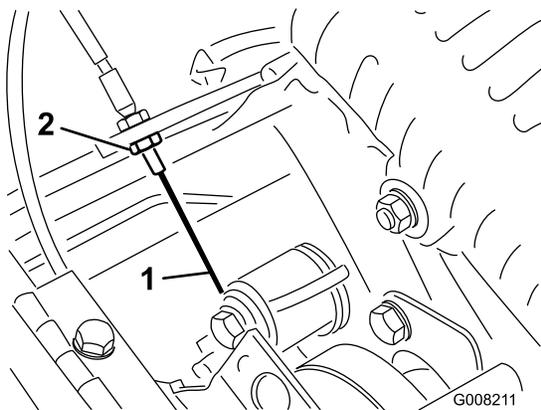

Figure 42
3. To increase the cable tension, loosen the front cable jam nut and tighten the back cable jam nut (Figure 42) until a force of 7 to 9 lbs (3 to 4 kg) is required to engage the traction control. Measure the force at the control knob.